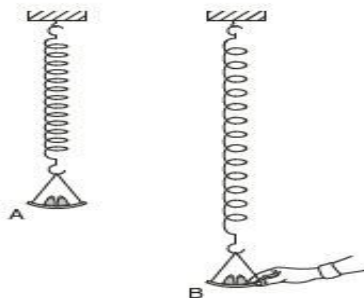

Fig. 2.3
- (c) The student pulls a load downwards from position A to position B and holds it fixed at position B, as shown in Fig. 2.3.